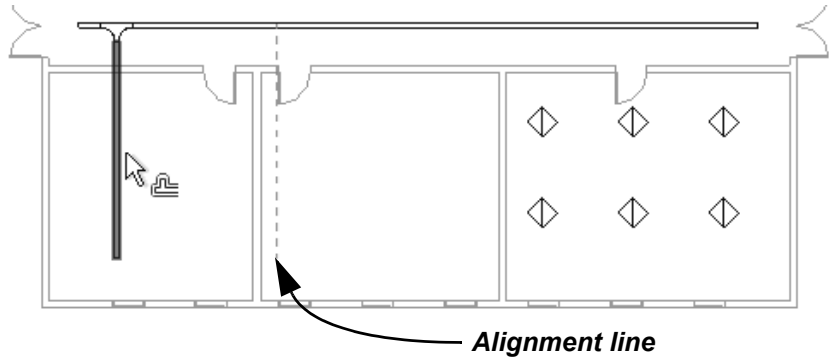

Figure 2–109
4. Hover the cursor over the vertical cable tray and ensure that the alignment line is to the right, as shown in Figure 2–109. Click to create the copy.
5. Select the cable tray in the Mech/Elec 106 room (ensuring that the offset is to the right) and continue until there are five total runs, as shown in Figure 2–110.